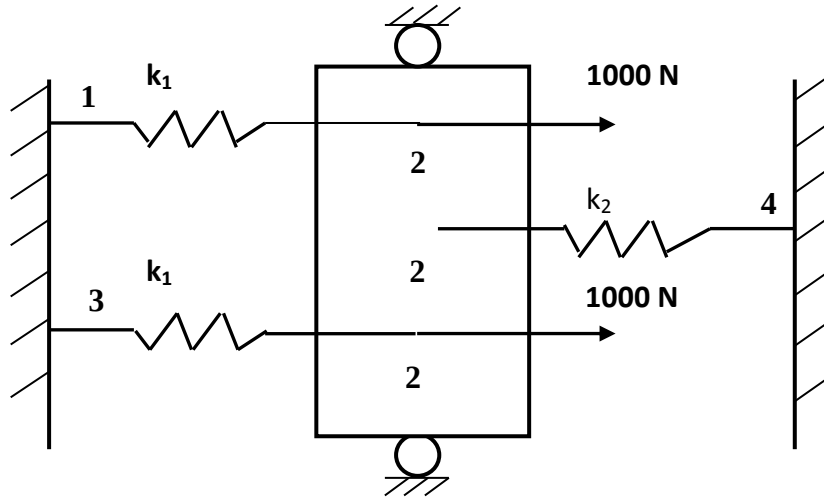

Fig. Q. 4b
4. a) Obtain the expression for element stiffness matrix of 8-node hexahedral element by using **Isoparametric formulation method**. (06)
- b) For the structure shown in **Fig. Q. 4b** obtain the unknown displacement if, $k_1 = 500 \text{ kN/m}$ and $k_2 = 1000 \text{ kN/m}$. (04)